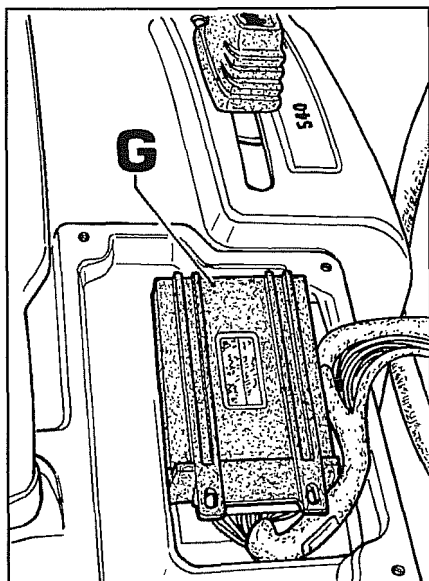

Fig. 45
1. To make this check, access the central unit **G** Fig.45 located under the rheostat holder box which can be removed from the mudguard as it is attached with double adhesive tape.